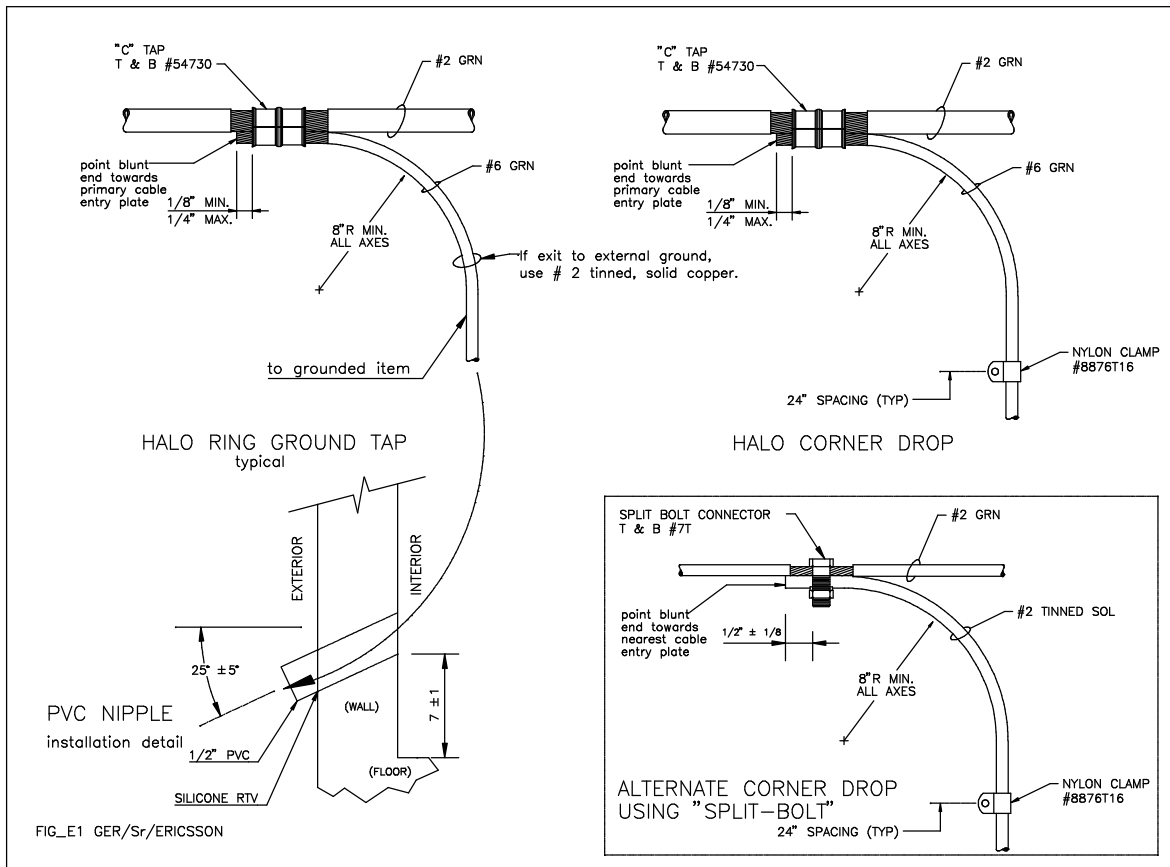
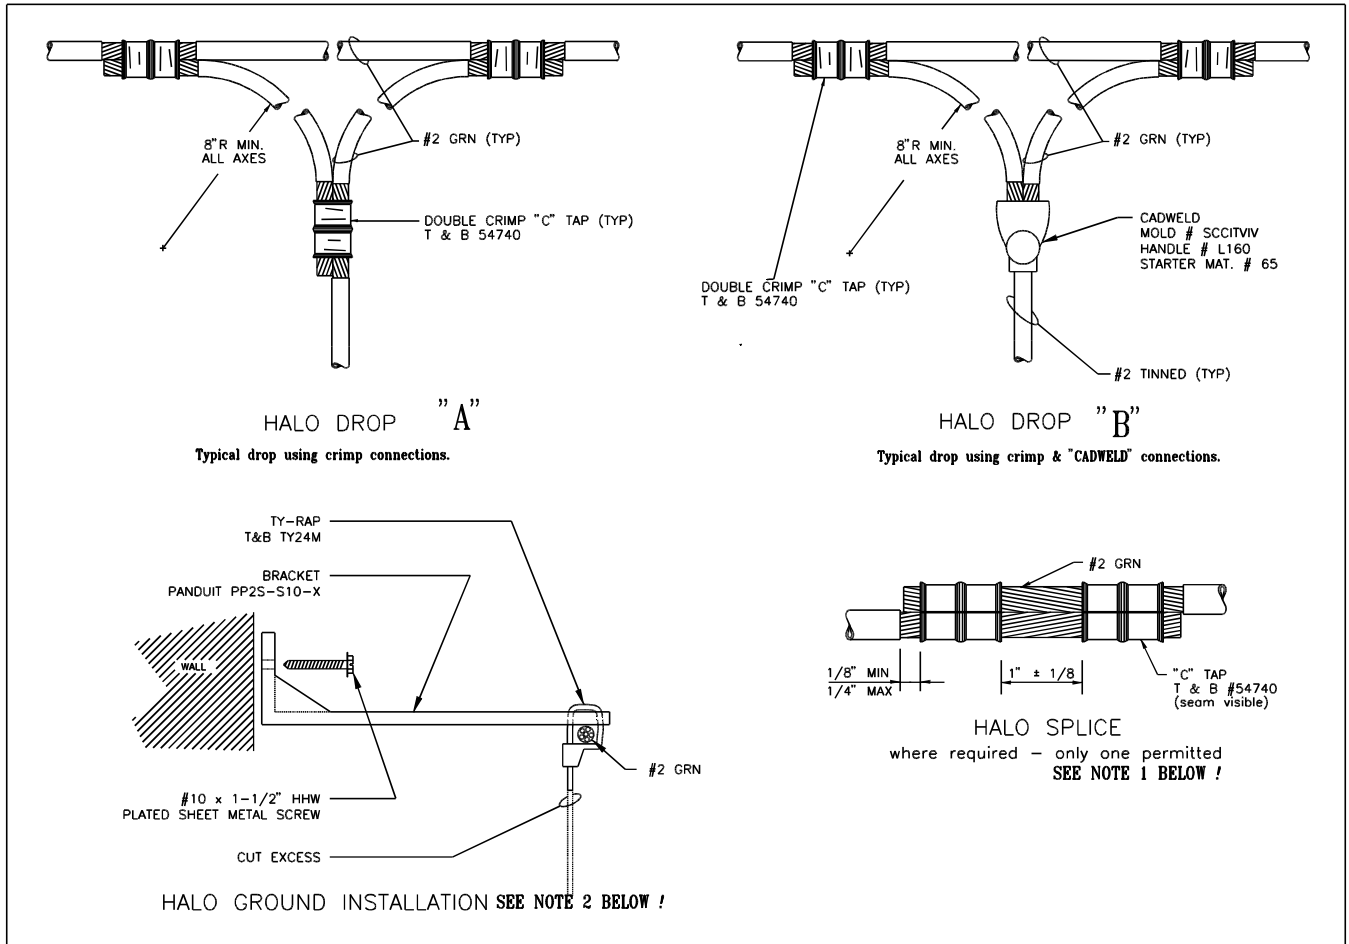
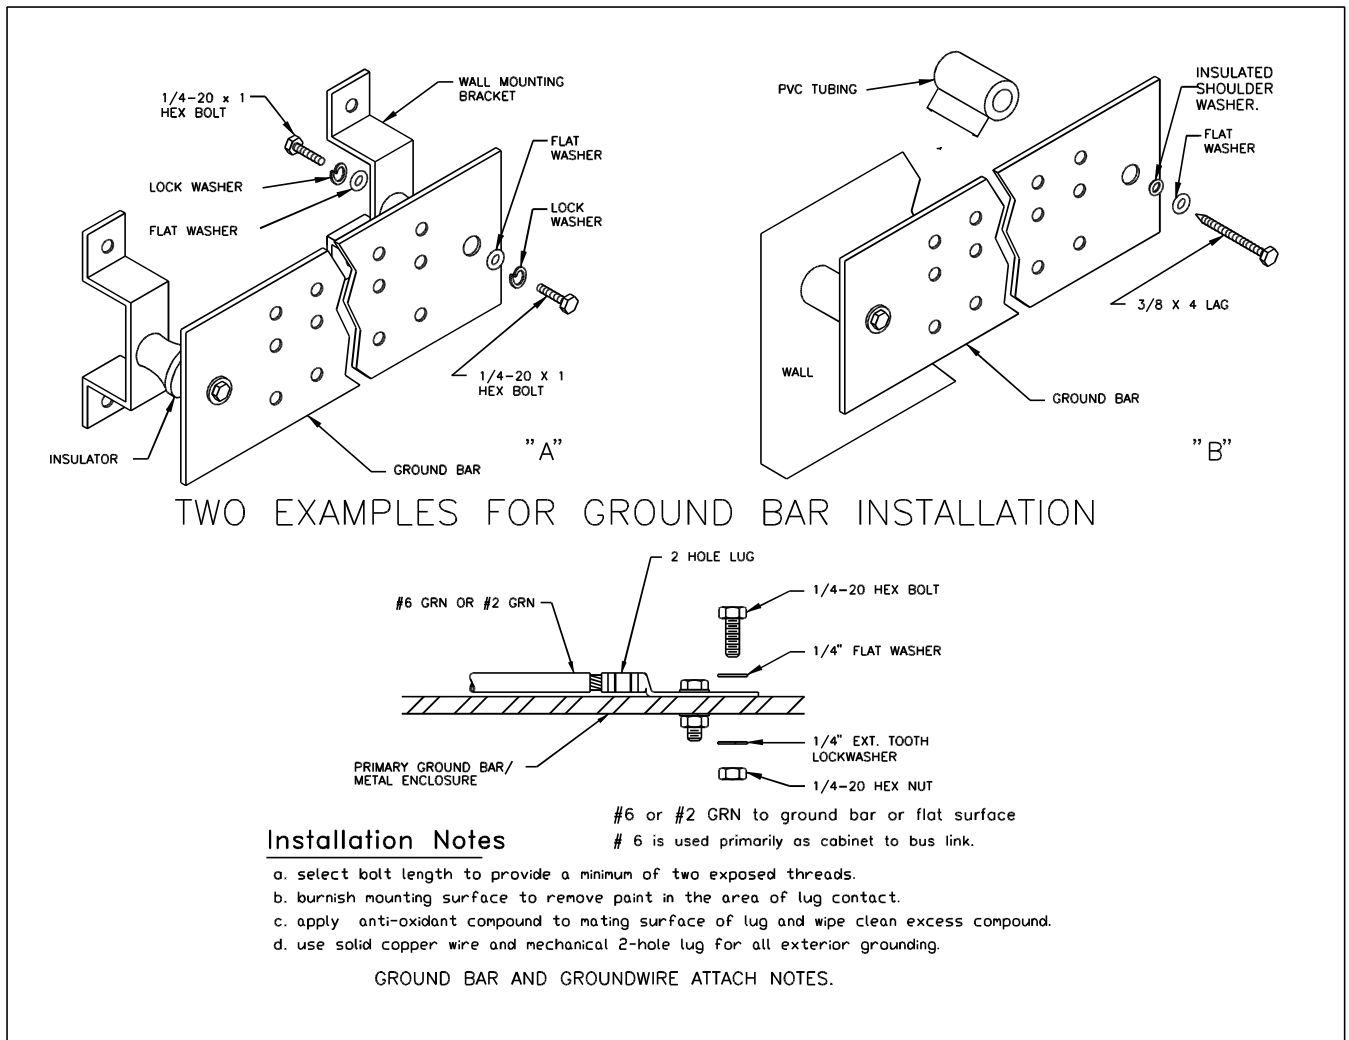

Figure 1 - Some Of The Ways The Inside "Halo" Ground Ring Is Connected To The External Ground Ring.
Figure 2 - Internal "Halo" Connections
Figure 3 - Two Examples For Ground Bar Installation
7.2 The manufacturer shall install a "halo" ground system consisting of a #2 AWG stranded green insulated copper halo located approximately 6 inches below the ceiling (see Figure 2 or the Ericsson Grounding Guidelines & Practices, LBI-39067A) with vertical #2 AWG bare/tinned solid copper drops at each corner of the building (see Figure 1 e.g. "PVC" Nipple). At these drop locations a length of bare/tinned solid copper wire capable of extending through and beyond the PVC nipple at least 10 feet shall be coiled and secured to the wall. The customer will use these to connect to the on site grounding system.
7.3 The shelter floor will be supplied with penetrations as per Figure 1 to allow the customer to exit at each corner wall location with the #2 AWG halo ground. Silicone sealer or equivalent shall be supplied for customers use to seal these penetrations after grounding connections have been made. An internal shelter "ground-bar" shall be installed as described in Figure 3.
7.6 All coax cable and/or waveguide entry grounds will terminate at the "ground window" or a ***PolyPhaser Earthed Entry Panel*** (PEEP) ground bar installed in an area near to, and/or below the cable multi-port entry panel. A description and example of the ground bar is illustrated in Figure 3.